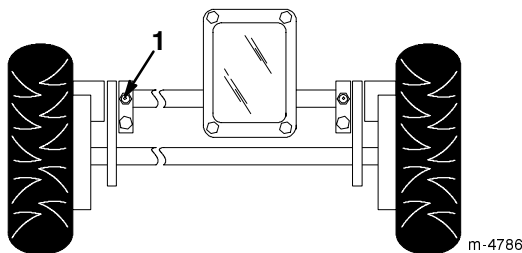

Figure 23
1. Wipe the grease fittings with a clean rag (Fig. 23).